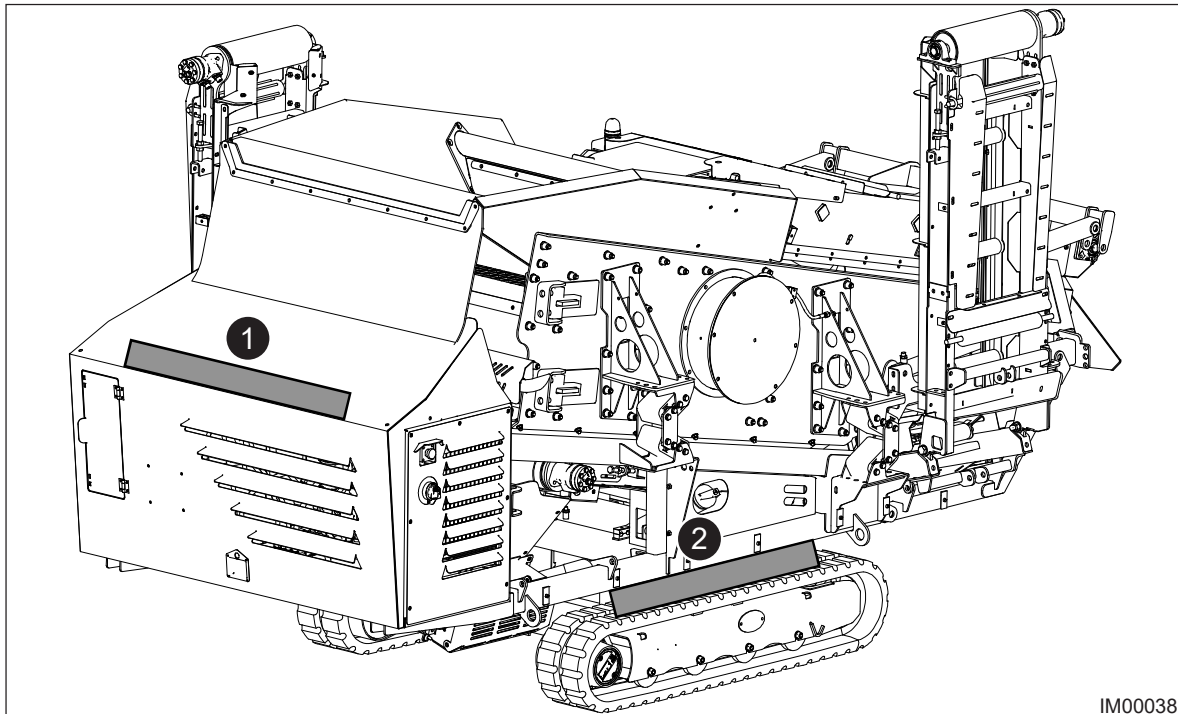

Fig: 7.2 - Levelling The Machine
6. Use a spirit level (Fig: 7.2) to ensure that the machine is level across its width (Item 1) and length (Item 2).